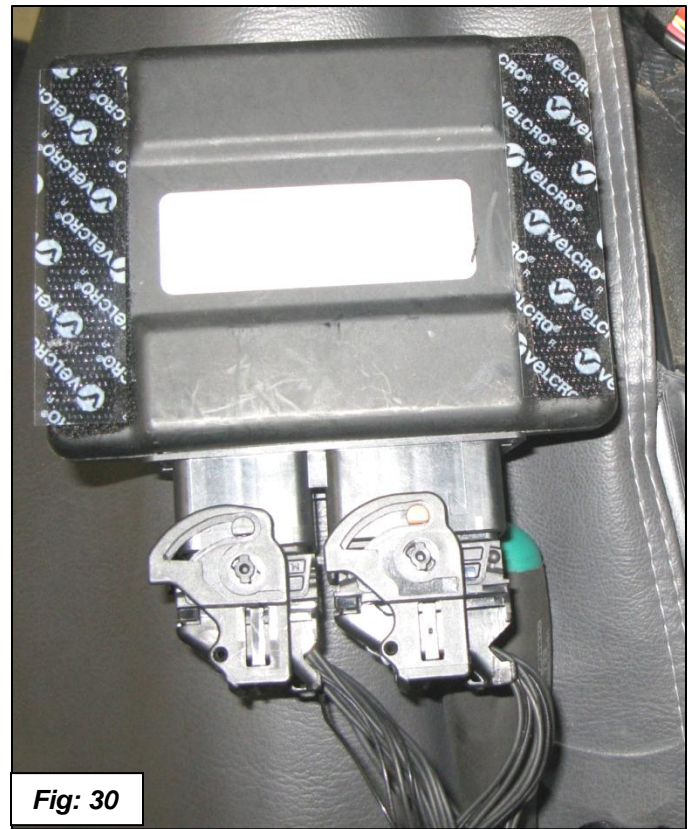

Fig: 30
29. Attach Velcro strips using the double stick tape to the back of the DPT ECU. Attach the hard hook side of the Velcro to the box after cleaning the surface first. See figure 30.
30. Attach the connectors to the DPT ECU starting with the large one first. See figure 30.